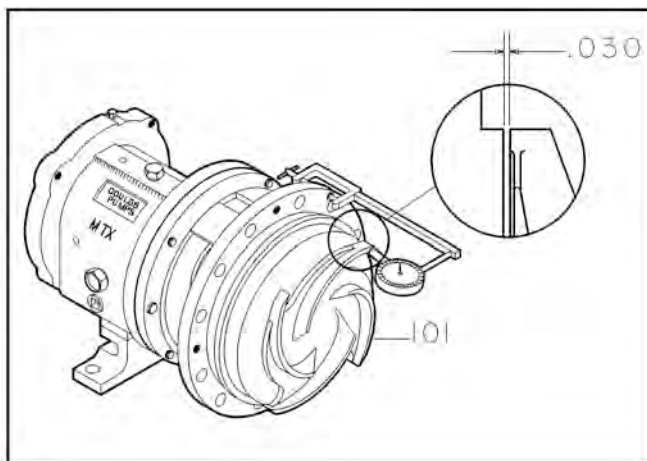

Figure 58:
16. Blue the shaft sleeve (126) or shaft (122) if no sleeve is used. Scribe a mark at gland gasket face of seal chamber/stuffing box cover (184). This will be the datum for installation of mechanical seal (Fig. 58).